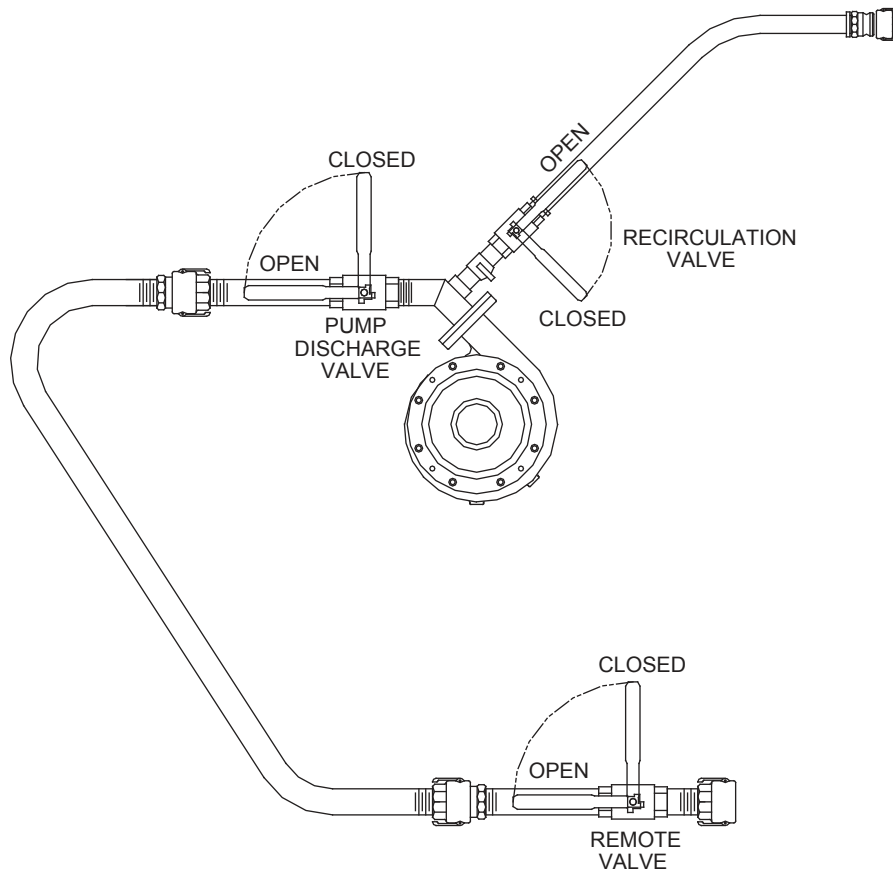

FIGURE 2
1. Discharge hoses: Discharge hoses are available in 50 ft. (15 m) and 100 ft. (30 m) lengths up to a total of 150 ft. (45 m). Hose of a greater length may adversely affect the discharge distance, and the discharge time of the HydroSeeder®. All connections are camlock quick operating fittings, including the connection to the end of the discharge piping. A nozzle is connected to the end of the hose next to the remote discharge valve. Once the hose is connected, the HydroSeeder® is ready to operate. Flow through the hose and the nozzle is controlled by the remote discharge valve. When using this valve, the recirculation valve on the HydroSeeder® **MUST BE OPEN** to allow flow at times when the remote valve is closed. See Figure 2 on page 9.
The base HydroSeeder® is equipped with three (3) independently operated ball valves to control slurry flow (see Fig. 2). The first valve is the recirculation valve. An open recirculation valve allows flow back into the tank. The second valve is the pump discharge valve. An open pump discharge valve allows slurry to flow through the discharge hose. The third valve, located at the end of the discharge hose is the remote valve. An open remote valve allows discharge of the slurry onto the area being covered.